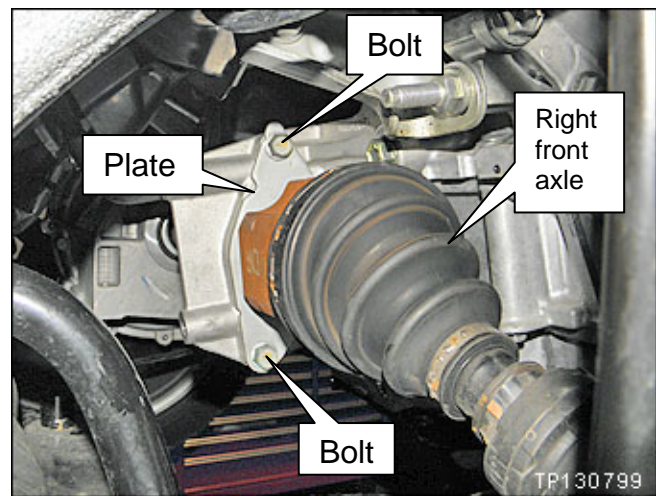

Figure A2
- c. Remove the plate shown in Figure A2.